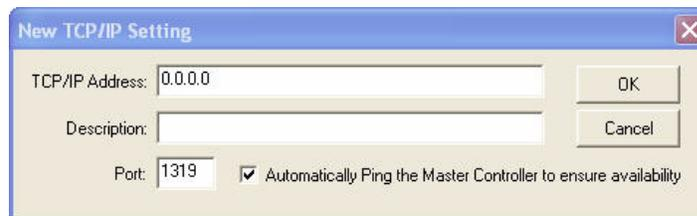

FIG. 26 New TCP/IP Setting dialog
- Click the **New** button to open the *New TCP/IP Setting* dialog box (FIG. 26), where you may enter both a previously obtained DHCP or Static IP Address and an associated description for the connection into their respective fields.